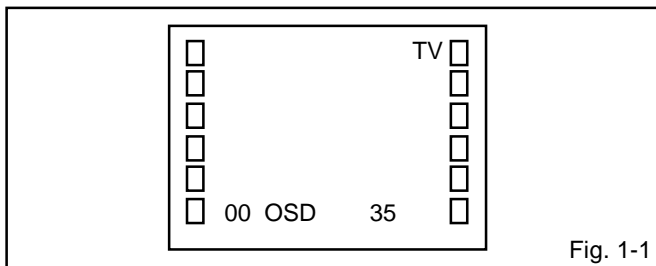

Fig. 1-1
Press the VOL. DOWN button on the set and the Channel button **(9)** on the remote control for more than 1 second to appear the adjustment mode on the screen as shown in **Fig. 1-1**.
3. Activate the adjustment mode display of **Fig. 1-1** and press the channel button **(01)** on the remote control to select "CUT OFF".
4. Activate the adjustment mode display of **Fig. 1-1** and press the channel button **(10)** on the remote control to select "R DRIVE".
3. Activate the adjustment mode display of **Fig. 1-1** and press the channel button **(03)** on the remote control to select "H. PHAS".